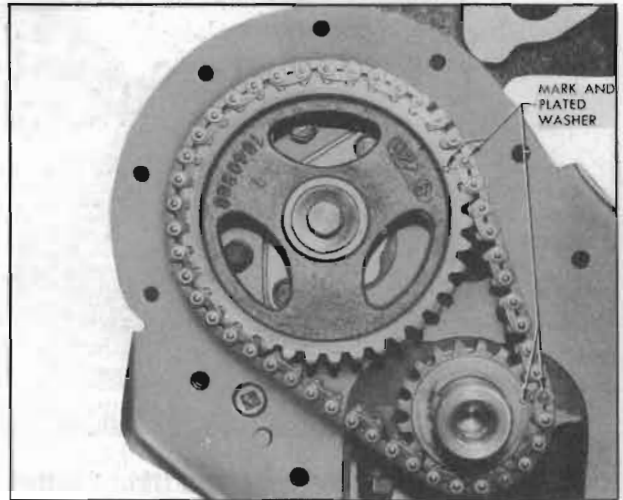

Figure 2-24—Timing Chain and Sprocket Marks
5. If chain requires replacement, turn crankshaft to align timing marks on sprockets with timing marks on chain. Each sprocket has a punch mark at one space between two teeth. Two teeth on timing chain, ten links apart, are marked with copper plated washers. See figure 2-24.
8. Install new timing chain with camshaft sprocket, being sure that timing marks on sprockets and chain are in line as shown in figure 2-24.